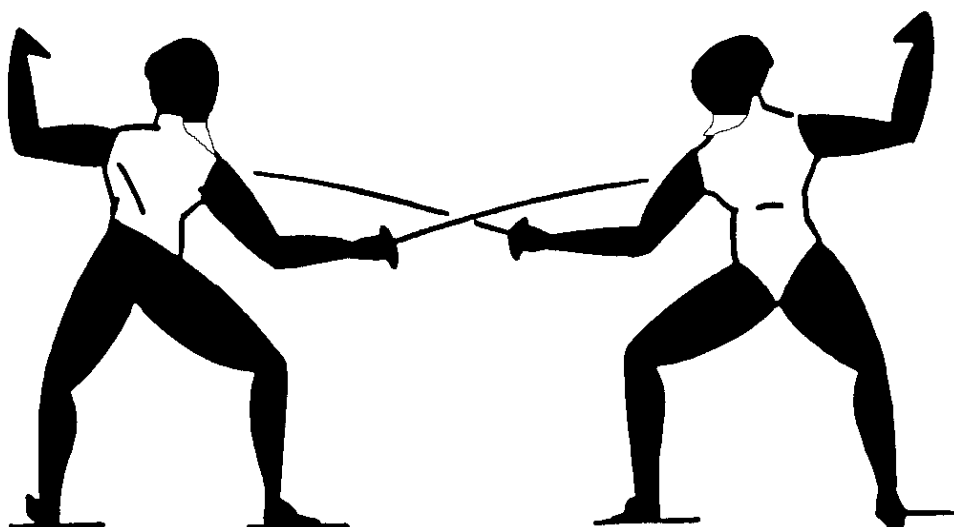

Figure 4. Valid target at foil (bib only from JAN 2009)
t.47.2. The target at foil excludes the limbs and the head. It is confined to the trunk, the upper limit being the collar up to 6 cm above the prominences of the collar bones; at the sides to the seams of the sleeves, which should cross the head of the humerus; and the lower limit following a horizontal line across the back joining the tops of the hip bones, thence by straight lines to the junction of the lines of the groin. (FROM JAN.2009 It also includes the part of the bib beneath a horizontal line 1,5 to 2 cm below the chin and which, in any case, may not be lower than the line of the shoulders) (see Figure 4)